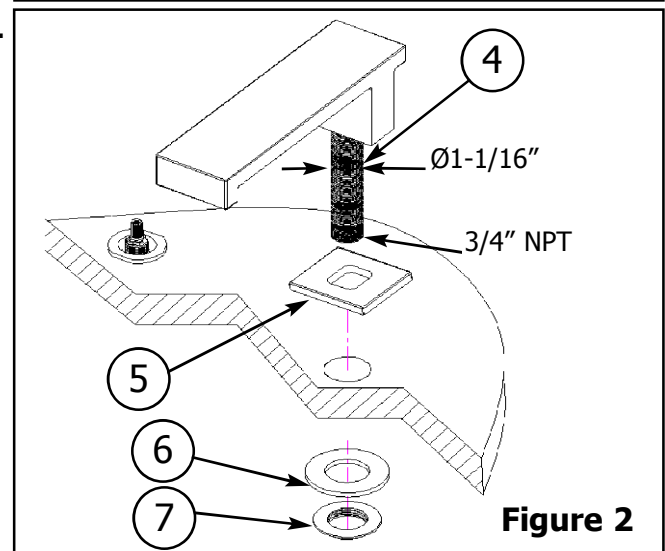

Figure 2
1. Slide spout NIPPLE (3) through center hole of mounting surface. SPOUT (4) to be flush with deck. Note: Spacer (80125, not supplied) maybe necessary to clear bath rim.
2. Secure into place with WASHER (6) and MOUNTING NUT (7). See Figure 2.